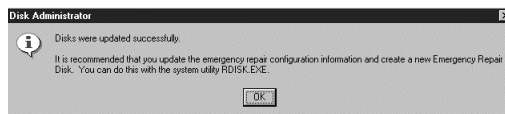

Figure 26. Disk Administrator
- 10 Click Yes. The following Disk Administrator dialog box appears (Figure 26).